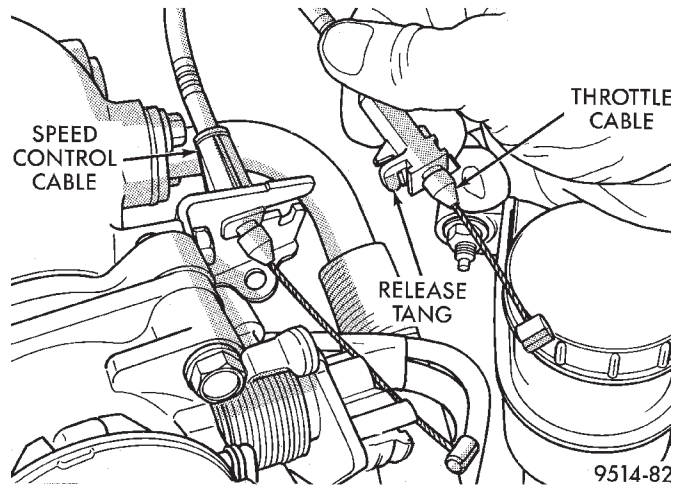

Fig. 67 Throttle Cable Attachment
- (3) Push release tang toward dash panel on throttle cable and slide cable out of bracket (Fig. 67).
- (4) Slide speed control cable out of bracket, if equipped (Fig. 67).
- (5) Remove EVAP purge hose from nipple on throttle body.
- (6) Remove connectors from throttle position sensor and idle air control motor.
- (7) Remove bolts holding throttle body to intake manifold. Remove throttle body.